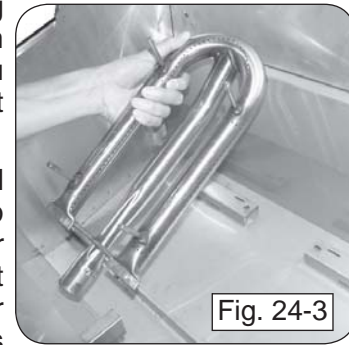

Fig. 24-3
2. Slightly pinch and remove the burner clip found on the rear center of the burner. Next lift the rear of the burner out of the anchor pegs, move the burner toward the back of the grill to clear the gas inlet, and set it aside (Fig. 24-3).